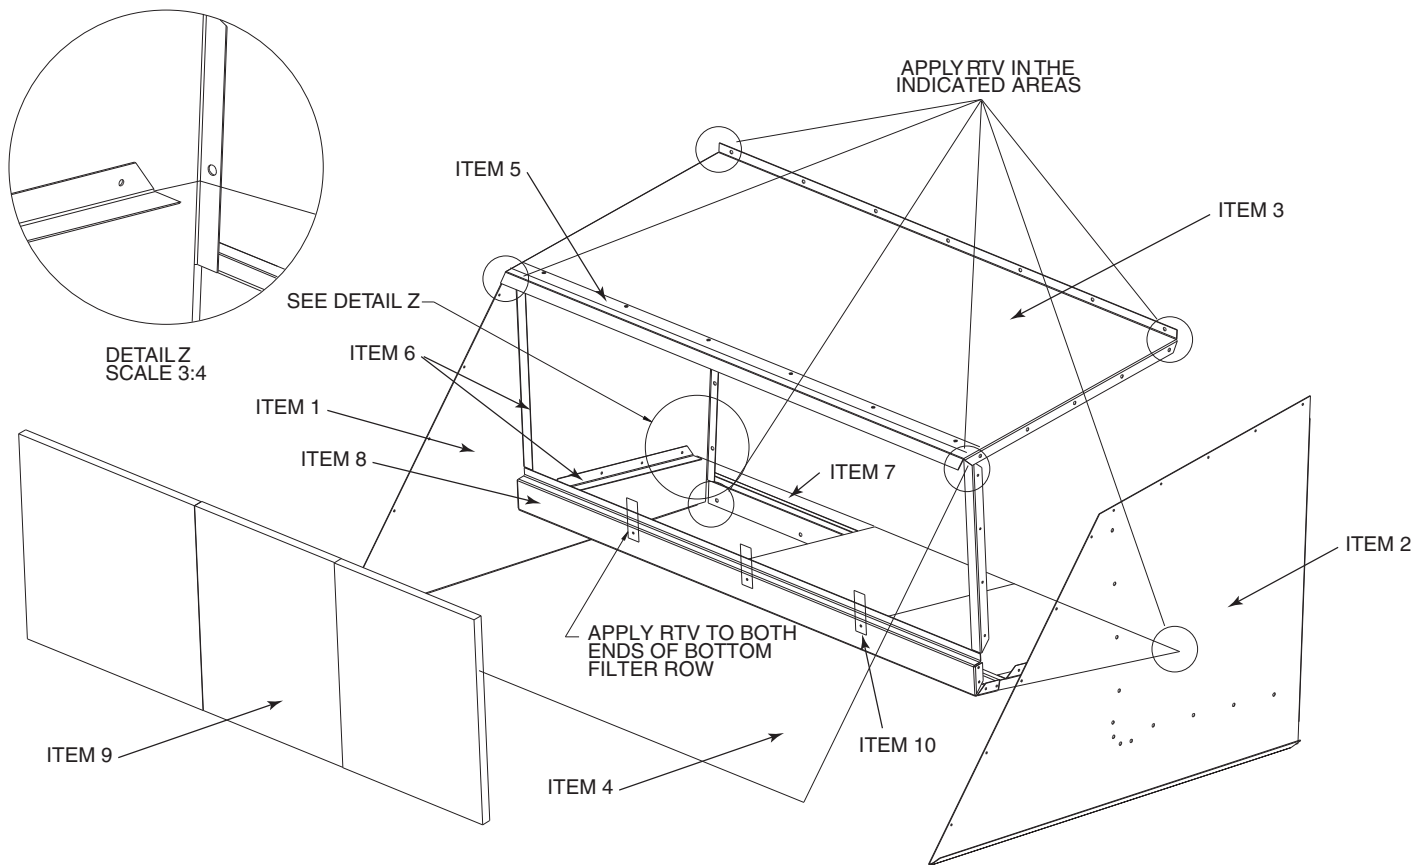

Fig. 38 — Large Economizer Hood Assembly
Large hoods are shipped disassembled in the economizer section of the unit behind the large economizer hood shipping cover. See Fig. 38 for assembly details for large economizer hoods. To install the large economizer hoods, perform the following procedure:
2. Remove the packages containing the disassembled large economizer hoods (total of 2 packages). Each package contains the following (see Fig. 38 for Item numbers):
16. Apply RTV or similar sealant to 6 places shown in Fig. 38.